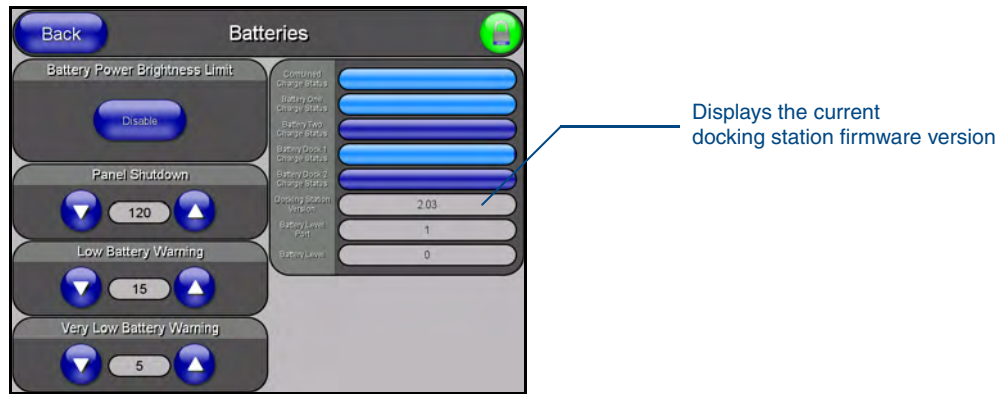

FIG. 40 Batteries page
3. Press the **Batteries** button to open the Batteries page (FIG. 40).